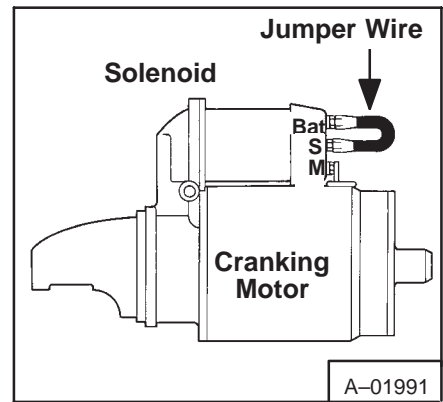

Fig.6-12 Checking Solenoid
2. Connect a jumper wire from the S connection on solenoid to the *Batt* connection on solenoid (Fig. 6-12). The engine will turn rapidly. If the starter turns, but not the engine, the defect is in starter drive. If the starter doesn't turn, do this: